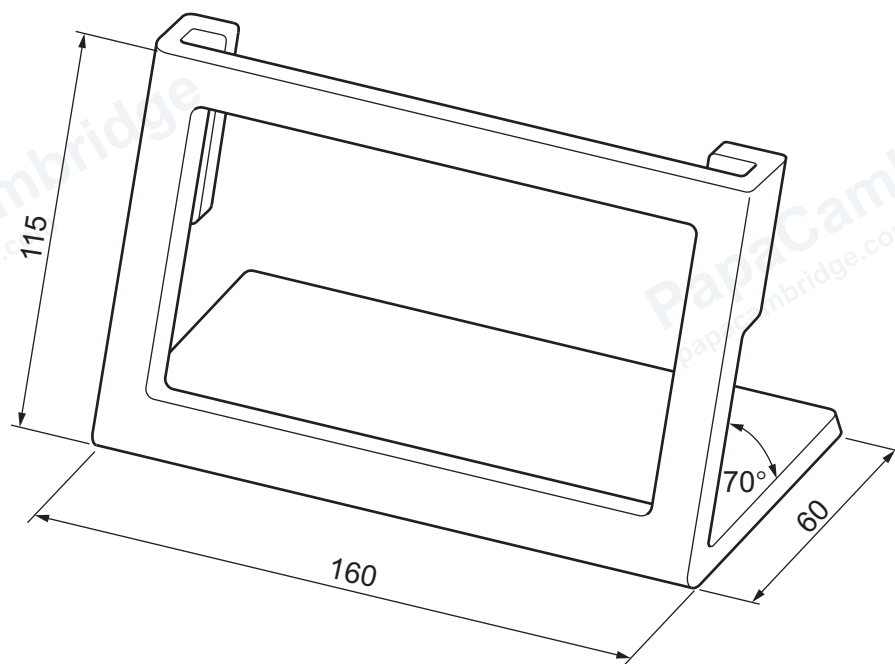

Figure 1.1
- 1 Figure 1.1 shows details of a photograph holder.
- (a) State a suitable material for the photograph holder shown in Figure 1.1.
(b) Use sketches and notes to show how you would make **one** photograph holder, as shown in Figure 1.1, in a school workshop.